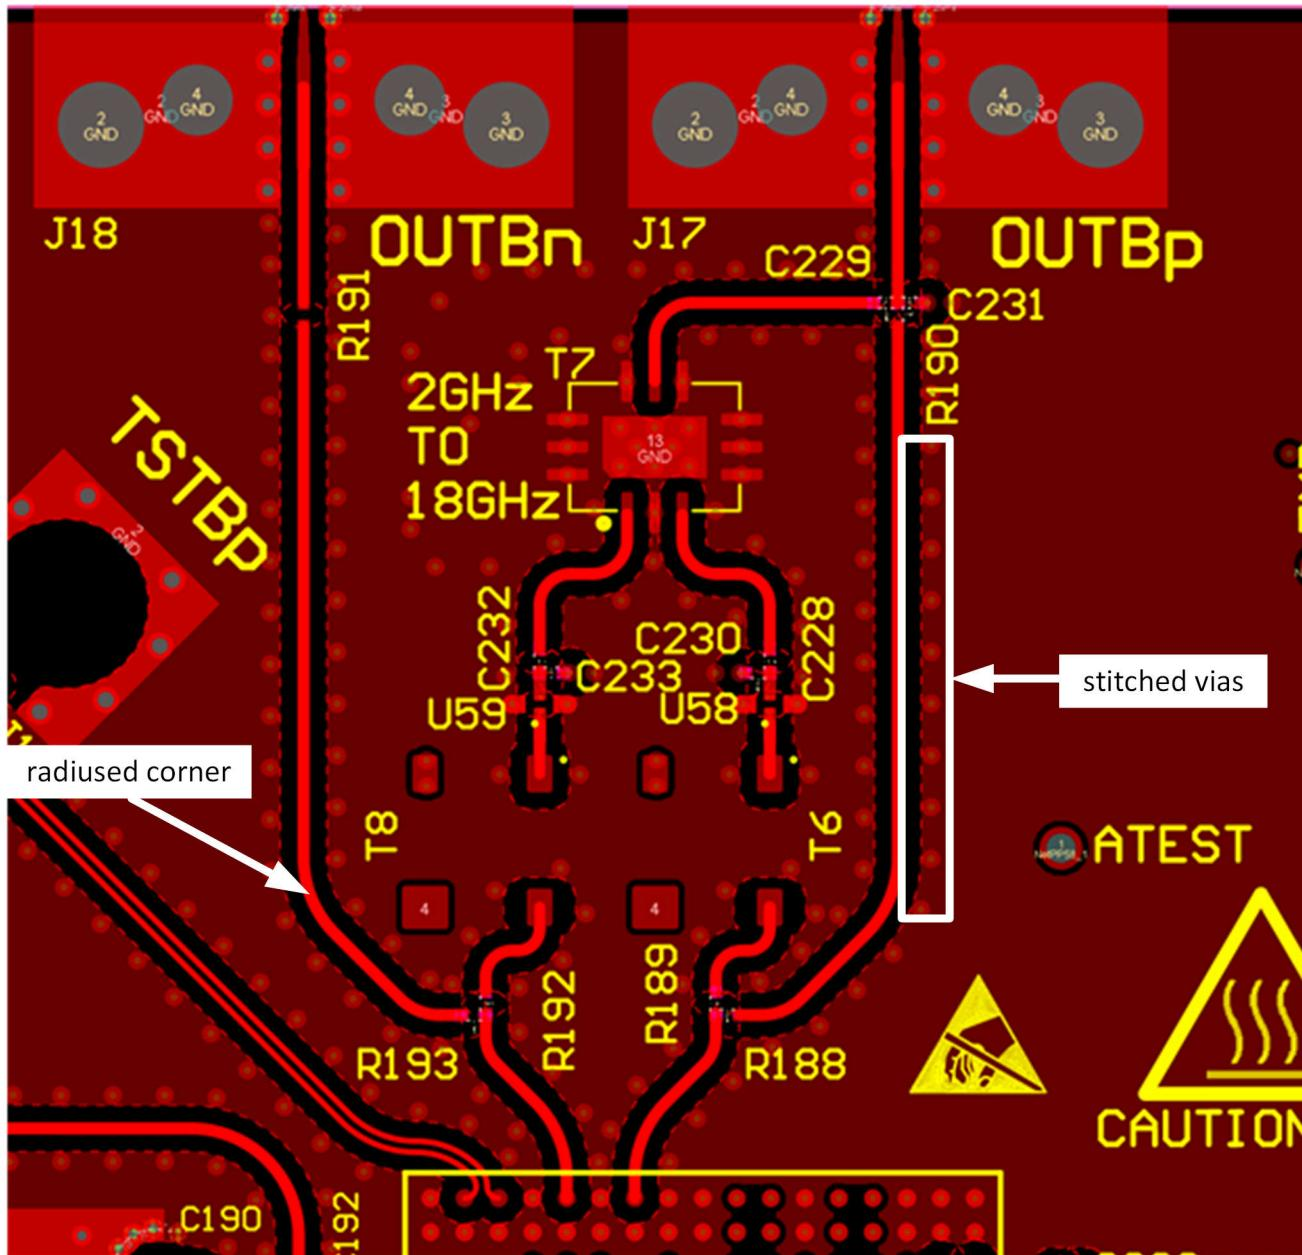

Figure 9-10. Radius Corner and Stitch Vias next to High_Speed Signal Trace
- Use smoothly radiused corners and avoid 45- or 90-degree bends to reduce impedance mismatches on all high-speed inputs/outputs for both analog and digital signal traces. See Figure 9-10 as an example.
7. Provide symmetrically located ground tie stitching vias adjacent to any high-speed signal at an appropriate spacing as determined by the maximum frequency the trace transports ($\lambda/4$). See Figure 9-10 as an example.